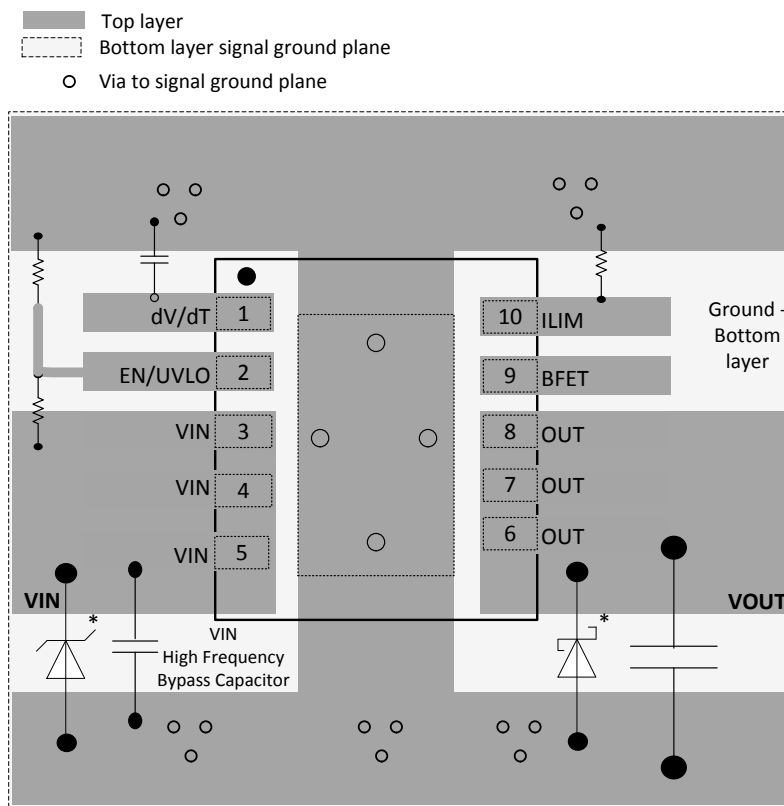

Figure 44. Layout Example
- The optimum placement of decoupling capacitor is closest to the IN and GND terminals of the device. Care must be taken to minimize the loop area formed by the bypass-capacitor connection, the IN terminal, and the GND terminal of the IC. See Figure 44 for a PCB layout example.